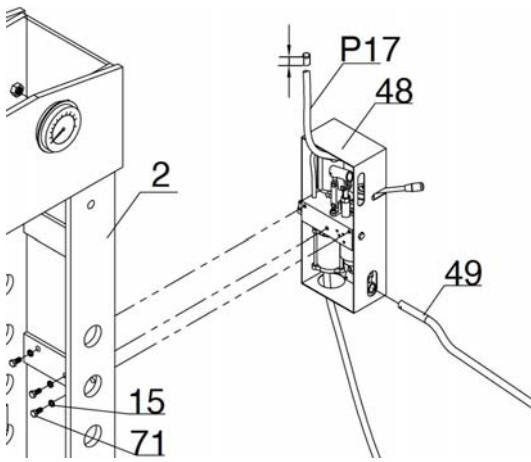

Figure 1
- 4) Mount the pump assembly (#48) to the body frame by using bolt (#71) and flat washer (#15). (Refer to Figure 1).
- 5) To avoid oil spillage from the oil hose (#P17), the factory has fitted a plug in the oil hose for shipping. To remove the plug, trim about 10mm off the end of the oil hose (with the plug). (Refer to Figure 1).